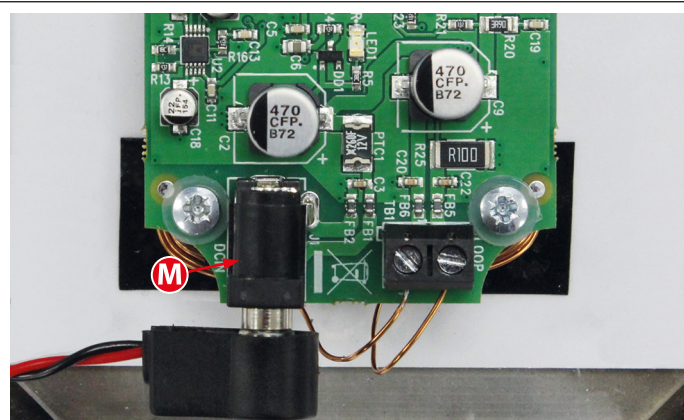

Fig. 17
16. Next take the 12Vdc power cable and plug it into the power plug-in terminal at the bottom of the Induction Loop, as shown in **Fig.17, M**.